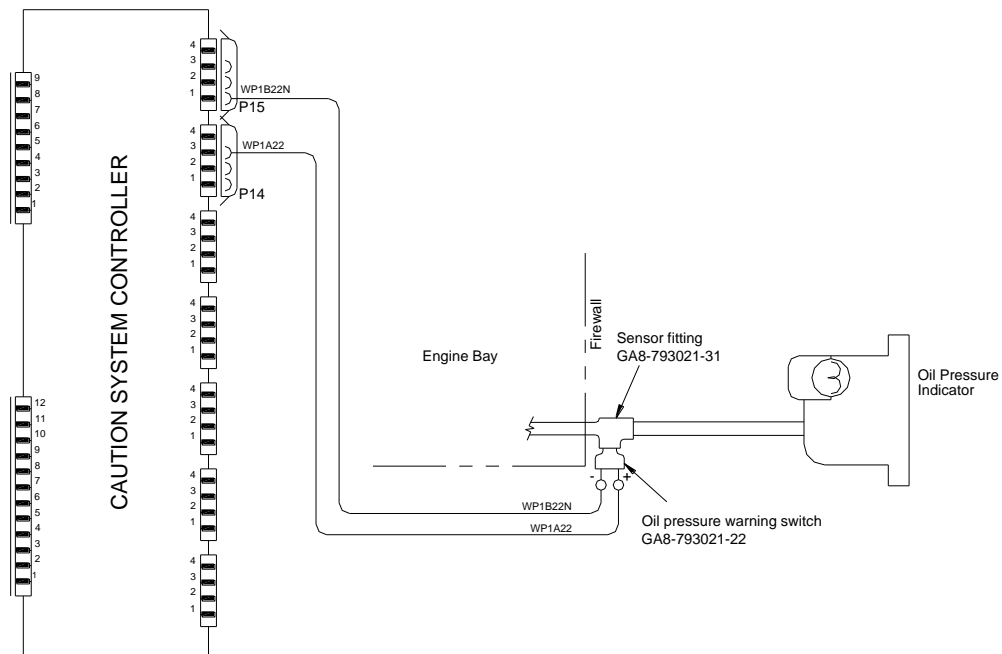

Figure 6-3 – Oil pressure switch installation
21. Install wire WP1A22 between the positive terminal of the oil pressure switch (GA8-793022-21) and pin 3 plug 14 of the caution system controller. Install wire WP1B22N between the negative terminal of the oil pressure switch and pin 1 of plug 15 of the caution system controller. Refer to Figure 6-3 for wiring schematic.